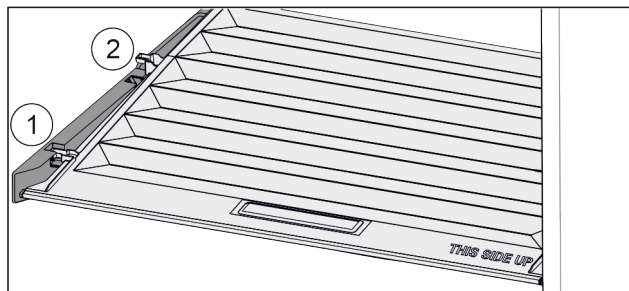

Fig. 139
- ▶ Pull the lid up at the front in the retaining parts to the opening Fig. 139 (1).
- ▶ Lift from the back and pull it up and out Fig. 139 (2).